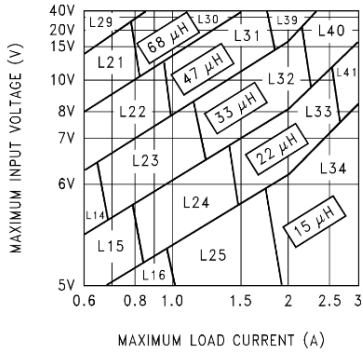
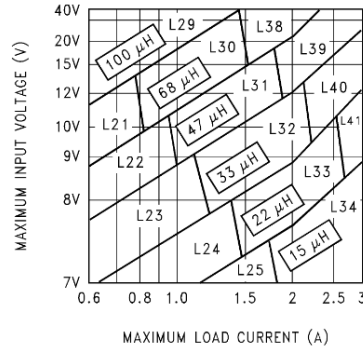
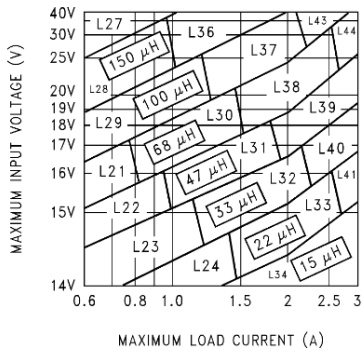

Figure 21. LM2596-3.3
Figure 22. LM2596-5.0
Figure 23. LM2596-12
1. Inductor Selection (L1) A. Select the correct inductor value selection guide from Figures <a href="#">Figure 21</a> , <a href="#">Figure 22</a> , or <a href="#">Figure 23</a> . (Output voltages of 3.3V, 5V, or 12V respectively.) For all other voltages, see the <a href="#">Design Procedure</a> for the adjustable version. B. From the inductor value selection guide, identify the inductance region intersected by the Maximum Input Voltage line and the Maximum Load Current line. Each region is identified by an inductance value and an inductor code (LXX). C. Select an appropriate inductor from the four manufacturer's part numbers listed in <a href="#">Table 3</a> .	1. Inductor Selection (L1) A. Use the inductor selection guide for the 5V version shown in <a href="#">Figure 22</a> . B. From the inductor value selection guide shown in <a href="#">Figure 22</a> , the inductance region intersected by the 12V horizontal line and the 3A vertical line is 33 $\mu$ H, and the inductor code is L40. C. The inductance value required is 33 $\mu$ H. From the table in <a href="#">Table 3</a> , go to the L40 line and choose an inductor part number from any of the four manufacturers shown. (In most instance, both through hole and surface mount inductors are available.)